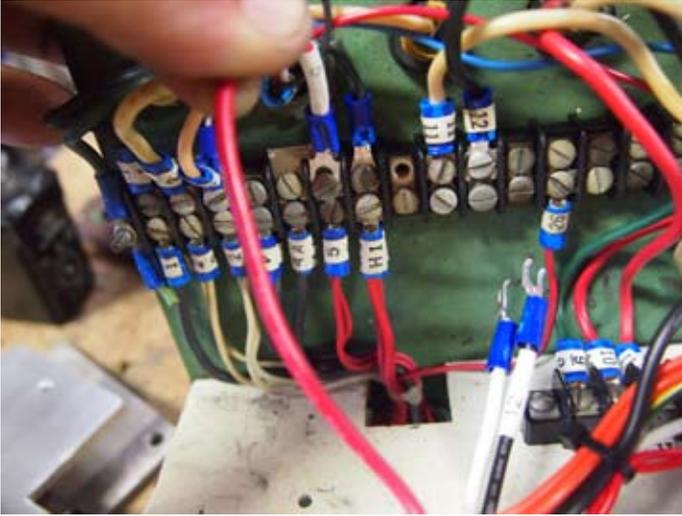
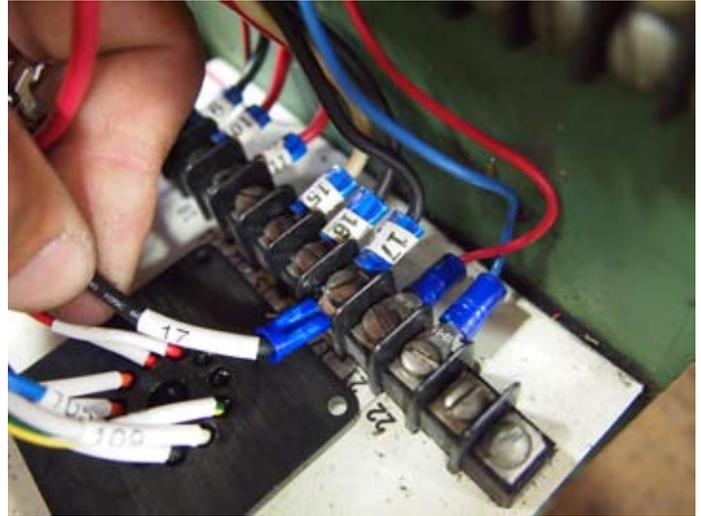
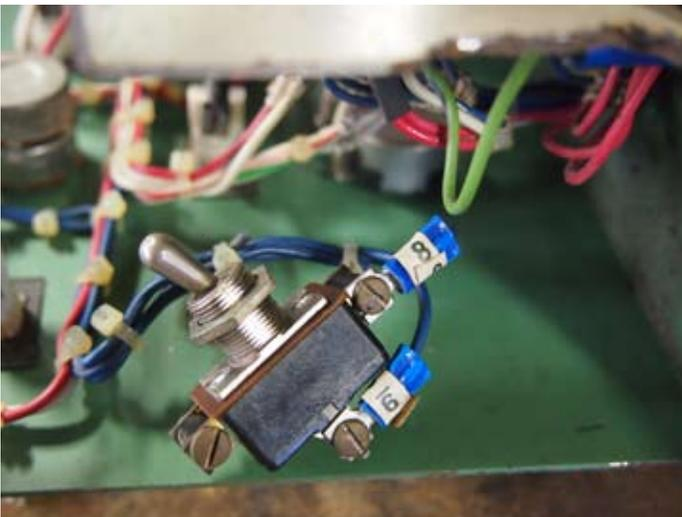

Figure 8
Figure 9
Figure 10
Step 4: Connect wire number 5 in retrofit to terminal 5 on box bottom terminal strip (Figure 8). Connect wire number 17 to terminal 17 on terminal block next to 11 pin plug (Figure 9). Bend the wire up so you can insert the 11 pin plug. Remove SETUP switch from front panel (figure 10) Clip wire number 9 and 8 at SETUP switch (figure 11).